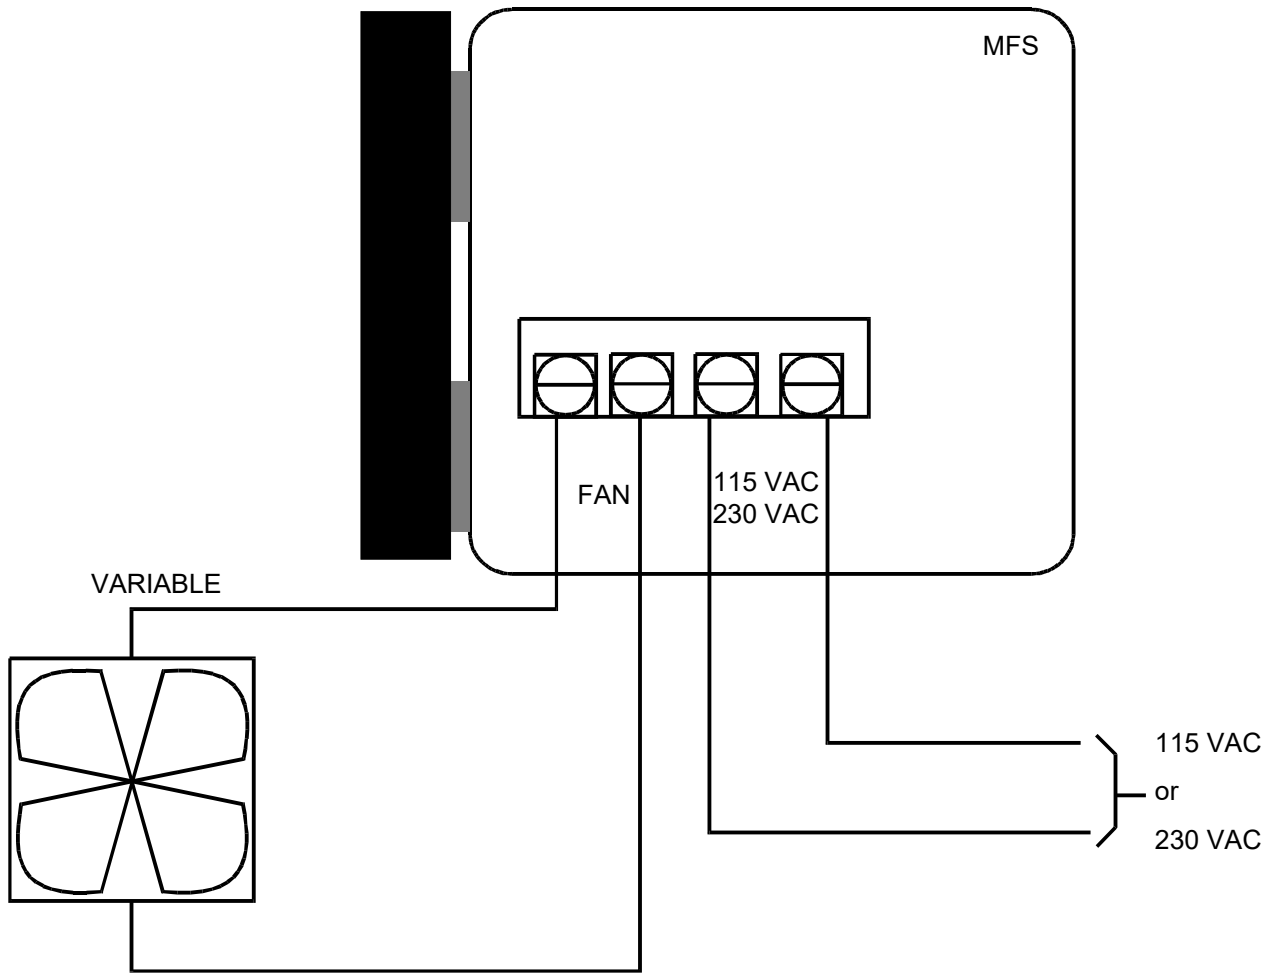

Figure 3: Typical Wiring for the MFS
- For a typical hook-up, refer to Figure 3.